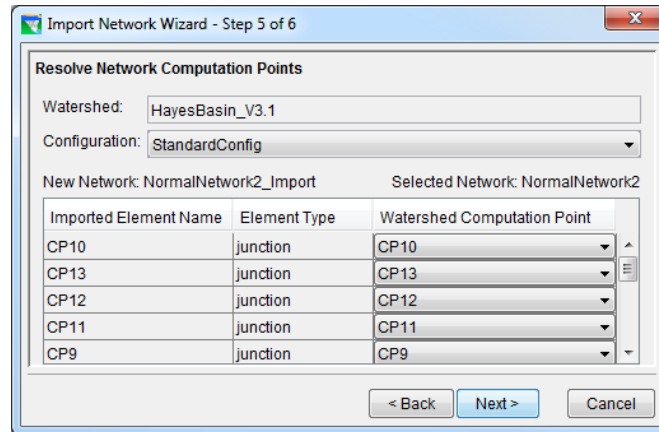

Figure 18 Import Network Wizard – Step 5 of (Resolve Network Computation Points)
**Edit Reach Properties.** With the reach tool  or the pointer tool  selected, right-click on the desired reach and select **Edit Reach Properties**. Select the routing method from the **Method** list (as shown in Figure 18) and fill in the